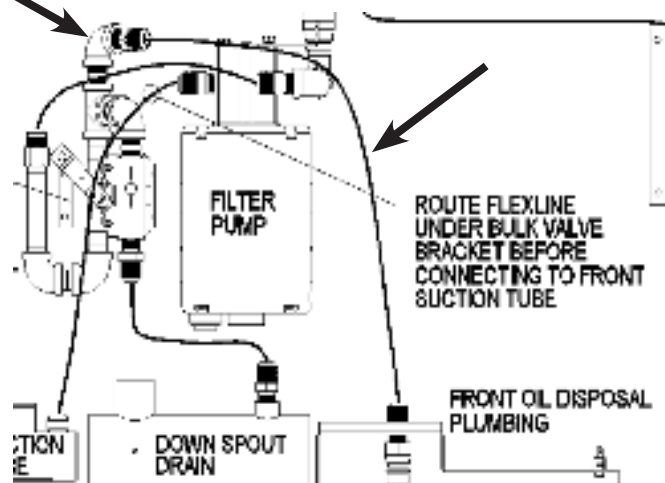

Figure 5
11. Attach the supplied 1/2" x 1-1/2" nipple to T-fitting where fitting was removed in previous step (see Figure 5). Use Loctite on fittings.
12. Attach the supplied 1/2" 90 degree elbow the nipple attached in the previous step (see Figure 5). Use Loctite on fittings.
13. Attach the flexline connector fitting removed in step 10 to the 90 degree elbow attached in the previous step (see Figure 5). Use Loctite on fittings.
14. Attach the flexline from the new front disposal assembly to the flexline connection attached in the previous step (see Figure 5).